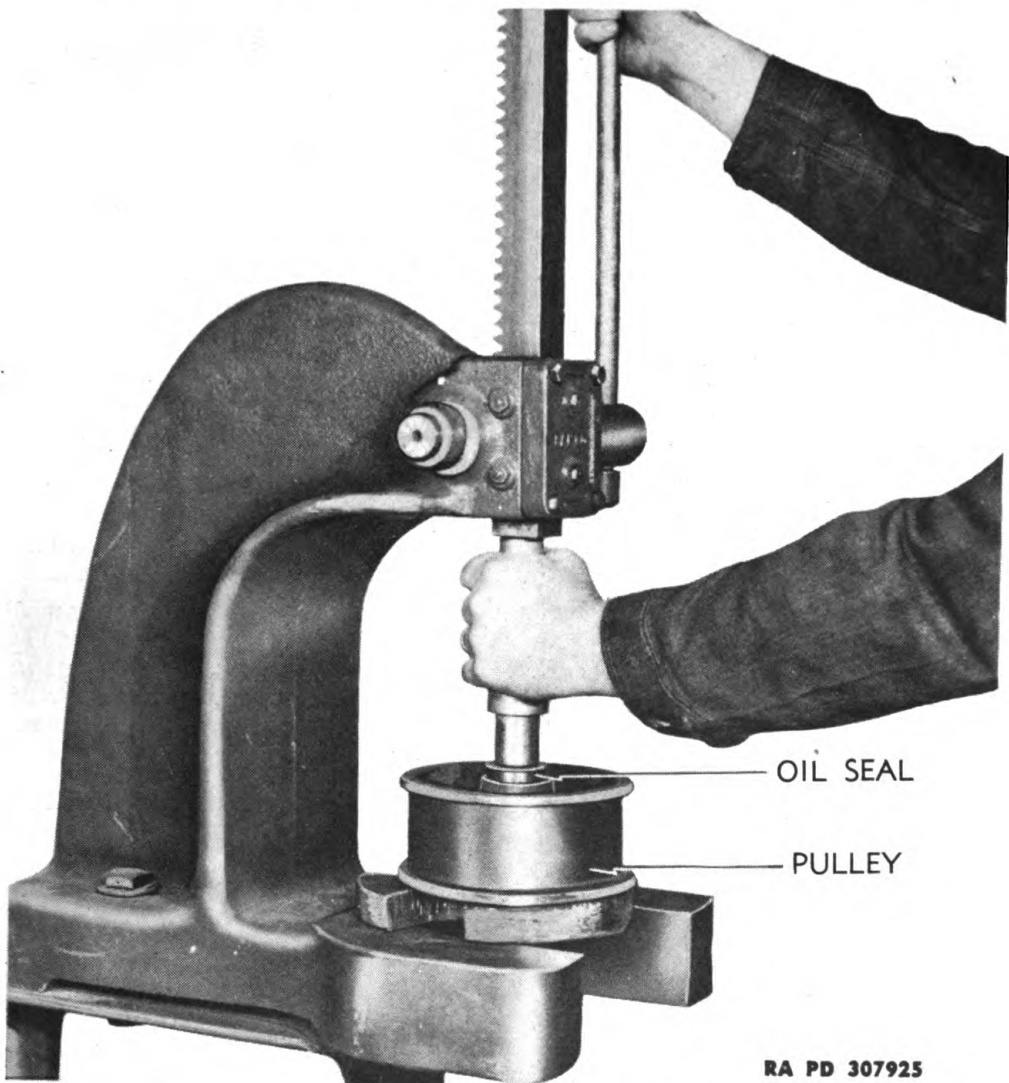

Figure 118 – Pressing Oil Seal Into Pulley Hub
d. Assembly of Tightener. Lubricate bearings with light engine oil and press one bearing into counterbore of pulley against shoulder. Press oil seal into hub (fig. 118) until seal is flush with end of hub